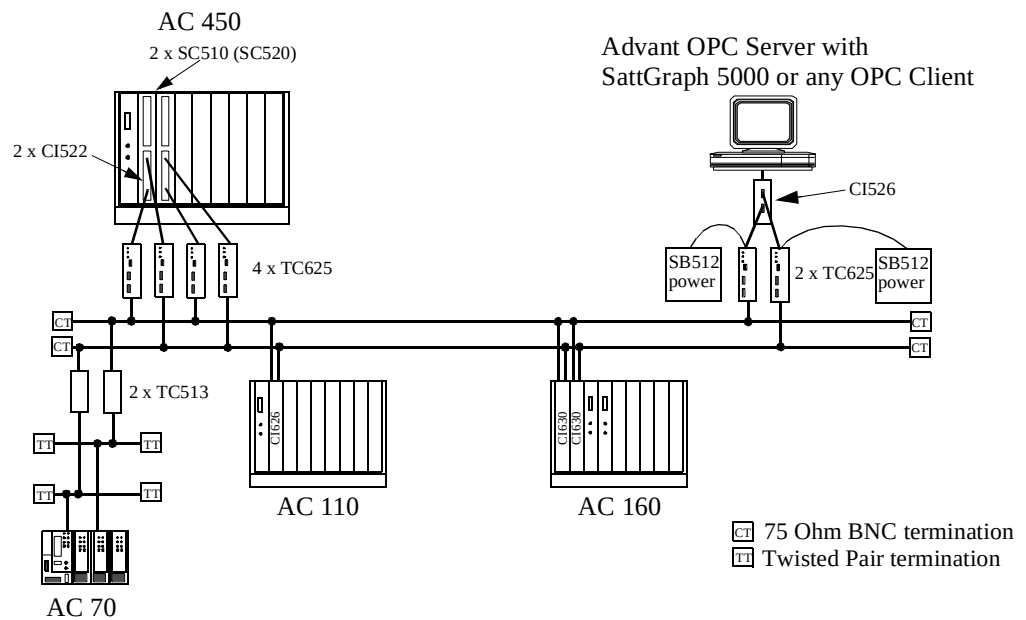
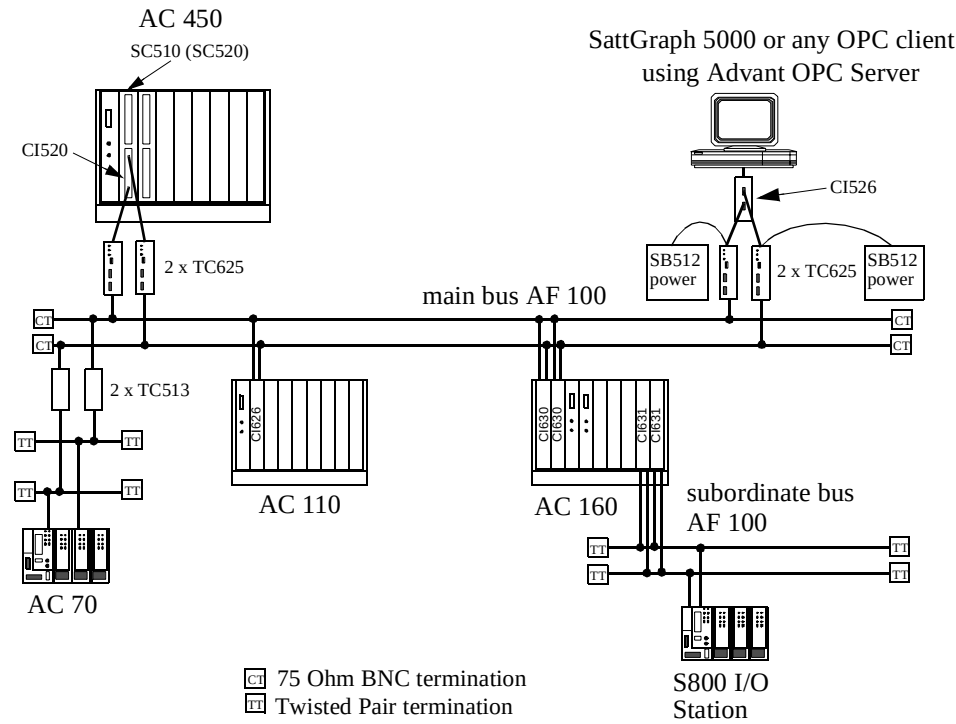

Figure 3-5. Redundant Advant Fieldbus 100 configuration using coaxial media
Figure 3-7. Dual Advant Fieldbus 100 configuration
- Communication with Advant Controller 70, 110, 160, 450, SattGraph 5000, and AdvaSoft 2.0 Operator Station with OPC Server (Figure 3-5 to Figure 3-7).
- Coaxial, twisted pair and optical bus cables (Figure 3-5 to Figure 3-7).
- Redundant bus cables (Figure 3-5 to Figure 3-7).
- Redundant Communication Interfaces to Advant Fieldbus 100 (Figure 3-5).
- Second subordinate Advant Fieldbus 100 with redundant Communication Interface for communication with S800 I/O stations and subordinate Advant Controller 70, 110 or 160 (Figure 3-7).